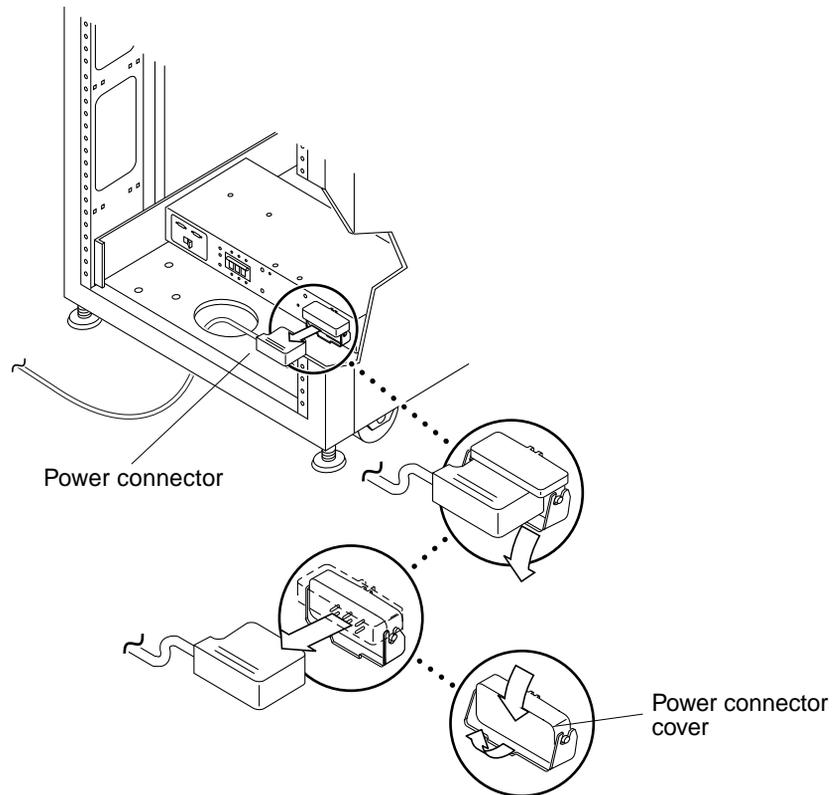

FIGURE 10-3 Removing and Replacing the AC Input Cable
2. **Disconnect the power cord from the power connector on the power sequencer (FIGURE 10-3).**
1. **Pull back the power connector cover (FIGURE 10-3).**